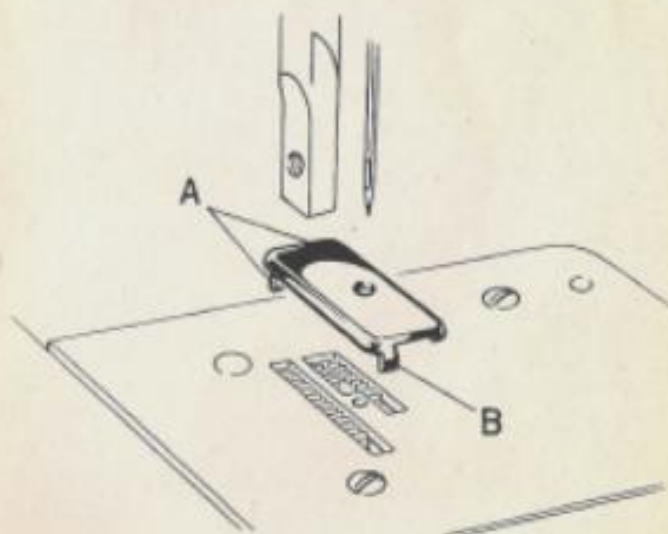

Fig. 22
- Fit the embroidery plate on the machine (No. 9 in Fig. 1) by inserting the two teeth « A » in the slots of the plate and, subsequently, the tooth « B » (Fig. 22);